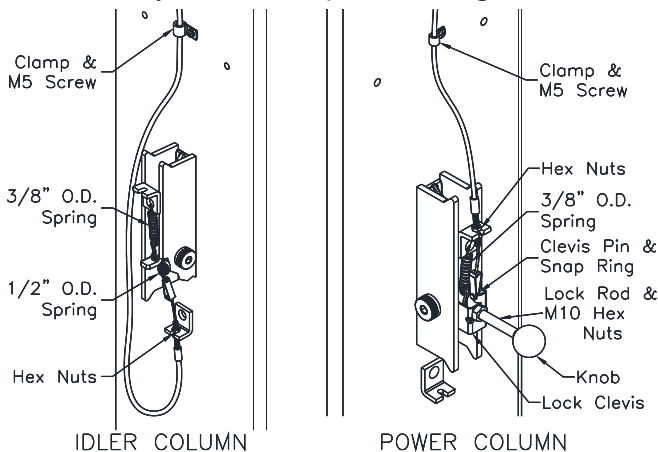

Fig. 9 – Lock Assembly
- 31) Attach Mechanical Lock Release Cable Assembly to each lock pawl. See **Fig. 9**.